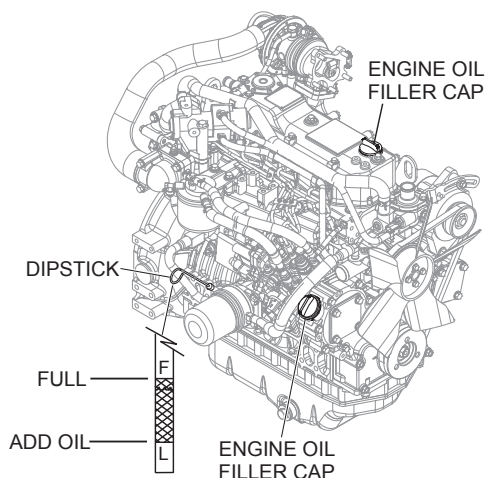

Figure 9. Engine Oil Check and Fill
2. Pull the engine oil dipstick from its holder (Figure 9).